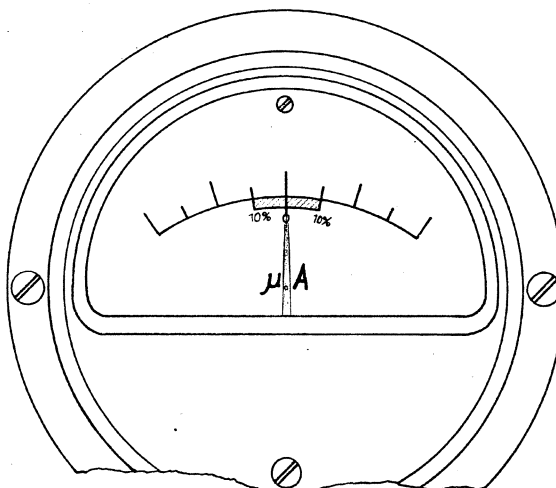

Fig. 4
1.2 If the grid bias is correctly set, the needle of the ammeter must indicate zero per cent (the zero mark), as shown in fig. 4.